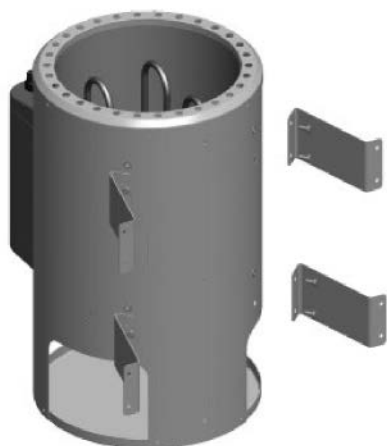

Fig. 3
- Mount 4 wall brackets in accordance with Fig. 3.